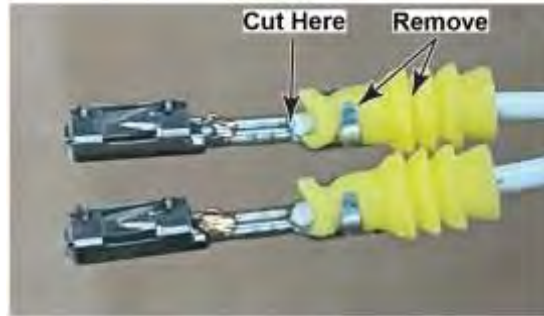

Figure 121
- (4) If contacts are being replaced, cut wire behind the end of the contact conductor crimp and remove the remaining portion of the contact and wire seal from the wire (Figure 121).